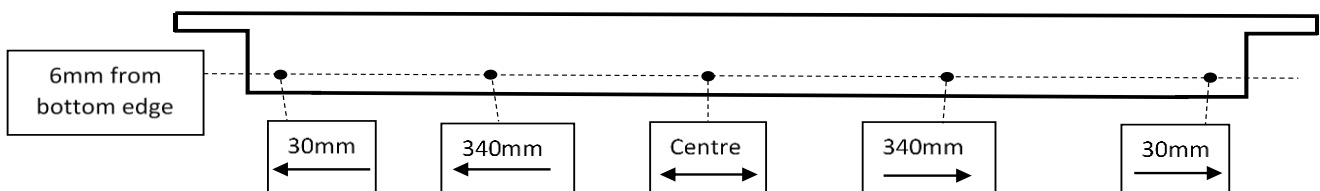

Figure 1
- 30mm and 340mm from each side, and 1 in the centre. *See Figure 1*